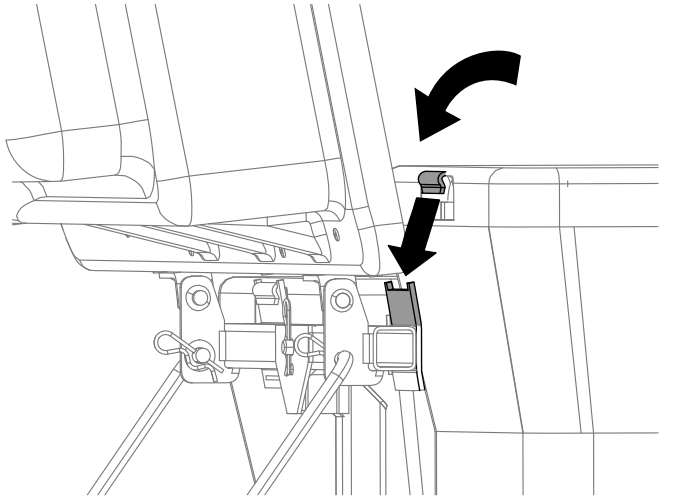

Figure 21
4. Lift the bagger top and install the bags assembled in 9 Assembling the Grass Bags (page 15) by sliding the bag frame hooks onto the retaining brackets (Figure 21).